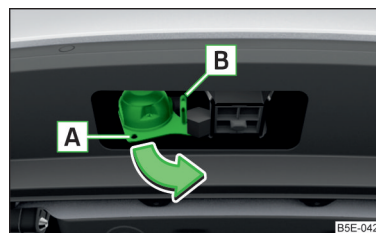

Fig. 190
- Grip the 13-pin socket at point **A** and swing out in the direction of the arrow » Fig. 190.
- Plug the trailer cable into 13-pin socket **A** » Fig. 190.